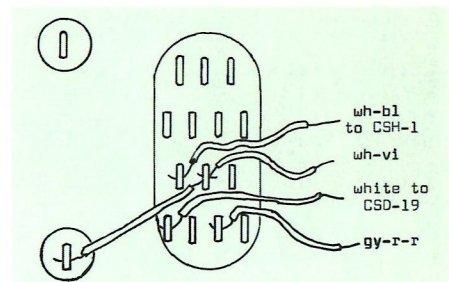

Figure 1. Diagram showing solder terminals on relay K601.
- () 3. Solder the new sleeving-covered wire and the white-violet wire to the terminals shown in Figure 1.
- () Solder the gray-red-red wire to the terminal shown in Figure 1.
- () 4. Solder a 10" piece of #22 white-black wire and a 6" piece of white wire to the terminals shown in Figure 1.